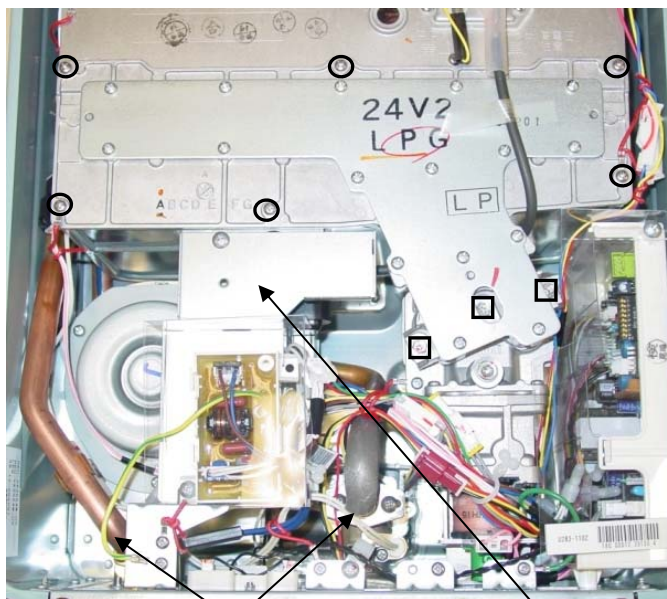

Figure 1
5. On the V53e and R63LSe, remove the screws (3) holding the bracket with the surge protector. (Figure 1)
7. Remove screws and brackets securing the water line connections. (Figure 1)
8. Remove the 3 screws that attach the gas manifold to the gas valve. These screws are machine screws and must be used at these locations. (Figure 1)
9. Remove the 6 screws that attach the gas manifold to the combustion chamber (part of the heat exchanger assembly). (Figure 1)